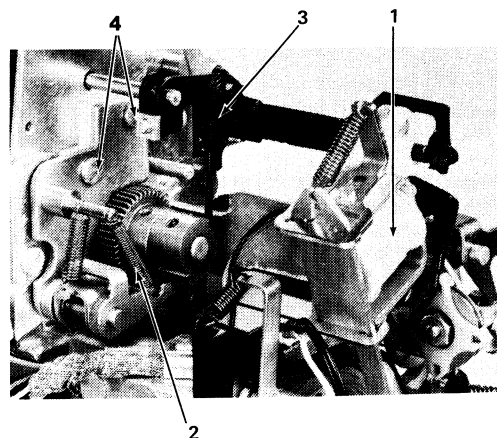

Figure 4-53. Filter Shaft Removal (Printer Tilted Up)
2. Remove the shift magnet (No. 1, Figure 4-53).
3. Remove the back check pawl spring (No. 2, Figure 4-53).
4. Remove the filter shaft cam trip link (No. 3, Figure 4-53).
5. Remove the two screws in the trip lever mounting bracket (No. 4, Figure 4-53).
11. Remove the right-hand keyboard retaining screw (No. 2, Figure 4-53).